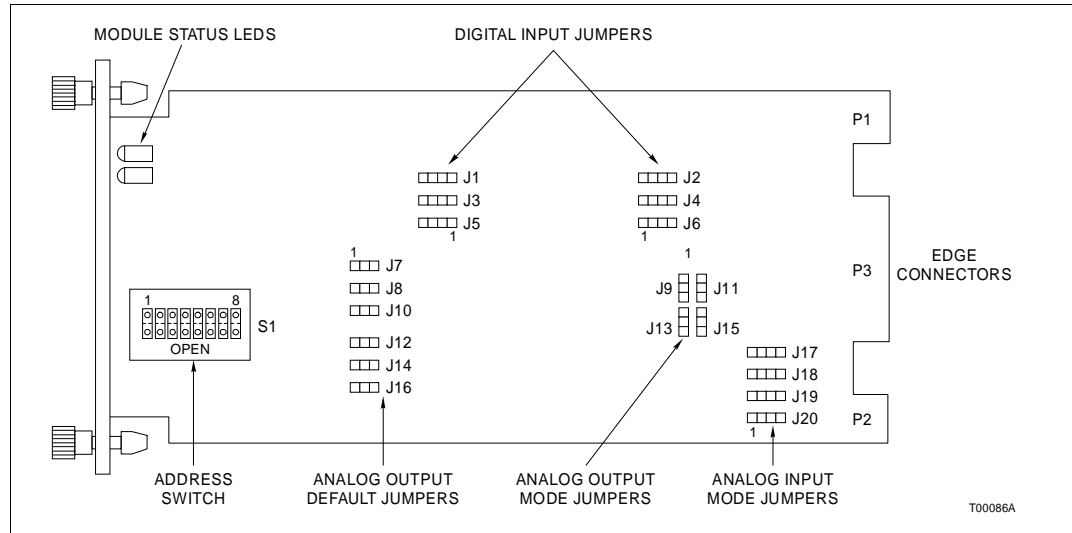
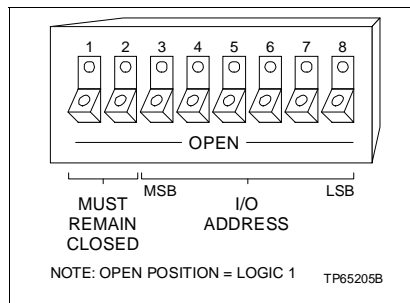

Figure 3-1. Switch and Jumper Locations
Figure 3-2. Address Select Switch (S1)
The address is set by the eight position address dipswitch (S1) shown in Figure 3-1. The six right switch positions (3 through 8) of S1 set the six bit address. Positions 1 and 2 are not used and must remain in the closed position (Fig. 3-2). Table 3-1 is a binary address conversion table for setting address switch S1.
Refer to Figure 3-1 for location of the jumpers and Table 3-2 for jumper settings.
The analog output mode jumpers select the mode of each analog output. The mode can be set to current (four to 20 milliamperes) or voltage (one to five VDC). Refer to Figure 3-1 for location of jumpers and Table 3-3 for jumper settings.
2. At the termination unit, use the dipshunt configuration for differential voltage mode. For the NTCS04 TU, refer to Appendix A. For the NICS01 TU, refer to Appendix B. Set the analog input jumpers (J17, J18, J19, and J20) on the module to the proper analog input desired. Refer to Table 3-4 for jumper settings. Refer to Figure 3-1 for location of jumpers.
The input configure on DC mode has a fixed propagation speed (17 millisecond response time). There are four terminals at each of these jumper locations. Refer to Figure 3-1 for location of jumpers and Table 3-5 to determine the jumper settings. Place a jumper across the pins shown in the table.